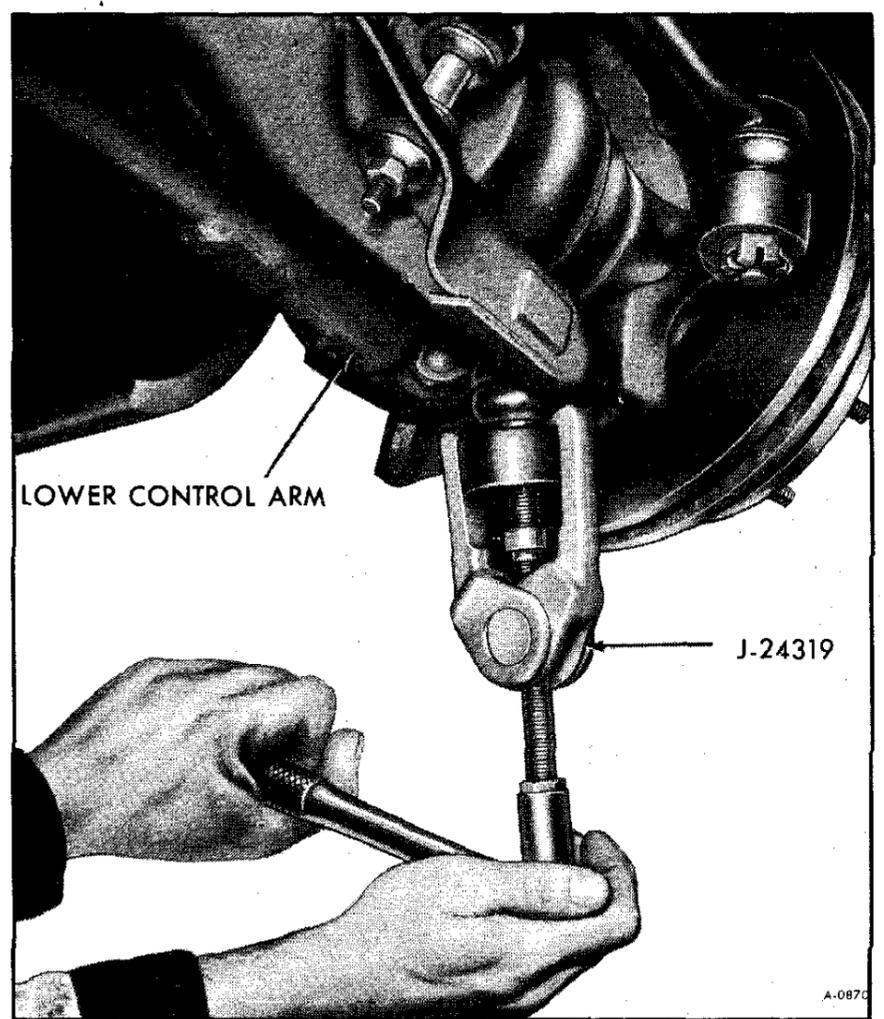

Figure 13—Removing Lower Ball Joint
8. Using Tool J-24319 remove lower (suspension) ball joint from knuckle (figure 13).
9. Install Tool J-24319 and remove ball joint stud from knuckle (figure 13).